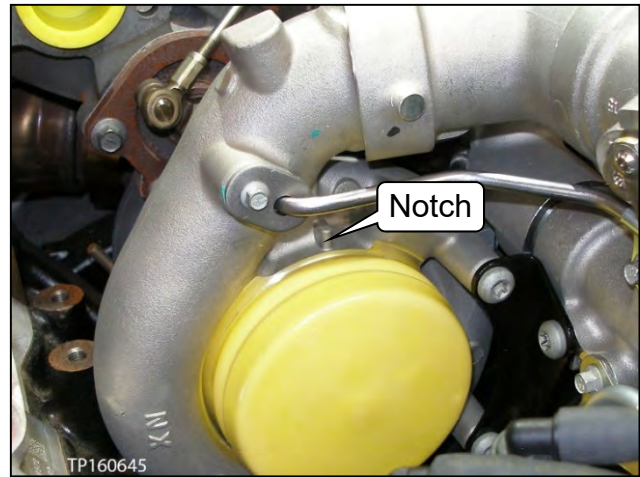
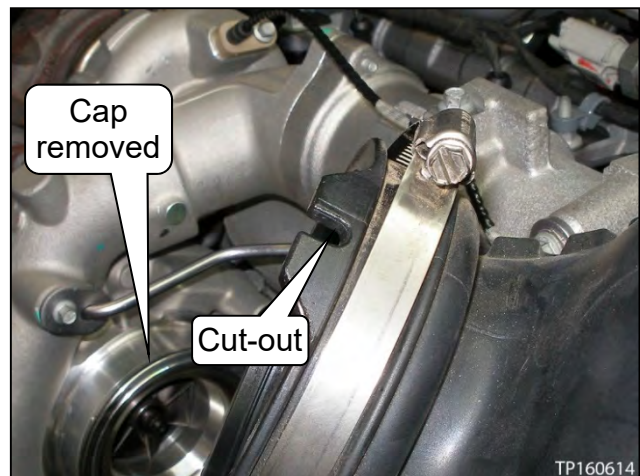

Figure 72
Figure 73
- The air inlet connection assembly is properly mated to the low pressure turbocharger when the notch is seated in the cut-out (see Figure 72 and Figure 73).